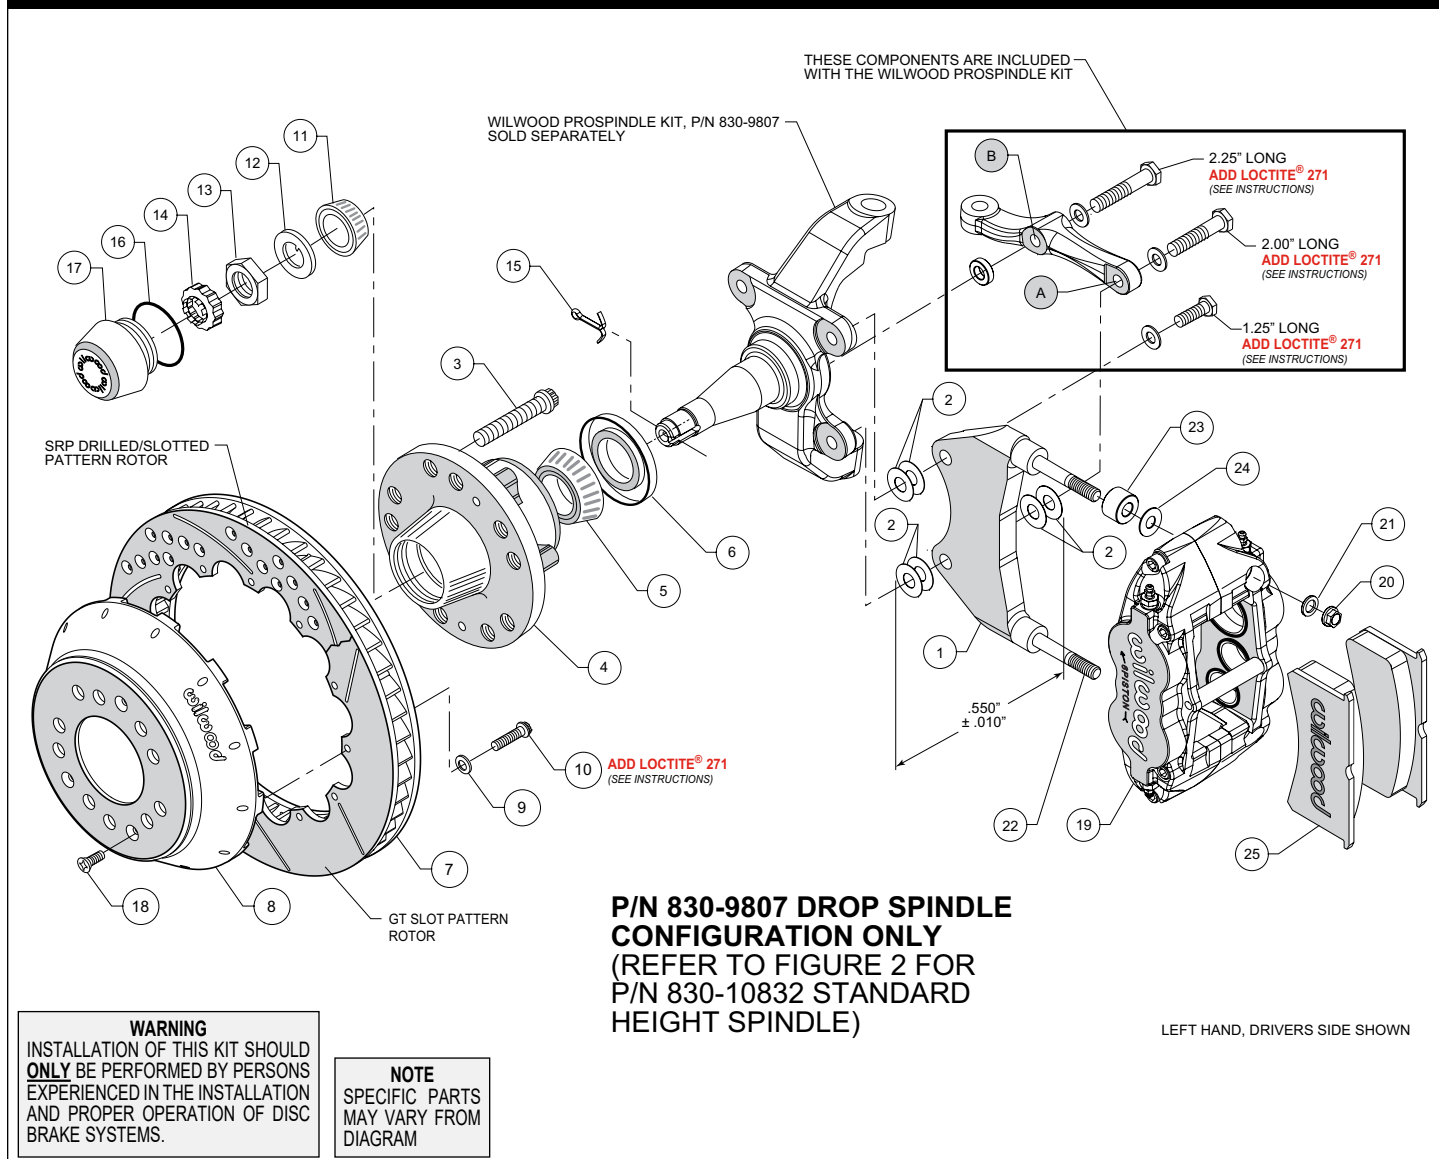
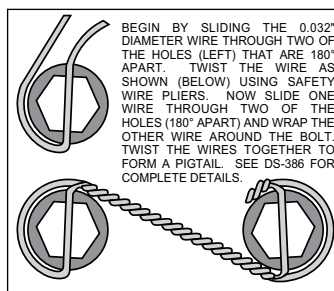

Figure 1. Installation Configuration For Drop Spindle, P/N 830-9807
Figure 4. Safety Wire Diagram
Assembly Instructions (numbers in parenthesis refer to the parts list and Figures 1 or 2 on the preceding pages):
- NOTE:** Each Wilwood ProSpindle kit includes bolts, washers, and a spacer to mount the steering arm and caliper bracket. The various bolts are identified by length in the following instructions and in Figures 1 and 2.
- Orient the bracket as shown in Figure 1 and Photo 1. Install at top spindle hole using 1.25" long bolt and .06" thick washer (from ProSpindle kit), and two .016" thick shims (2) between the bracket and spindle, Figure 1.
- Orient the steering arm, and identify the hole marked 'A', as shown in Figure 1. Install at bottom spindle hole using 2.00" long bolt and .06" thick washer (from ProSpindle kit), two .016" thick shims (2) between the bracket and steering arm, and another two .016" thick shims (2) between the bracket and spindle, Figure 1. The bracket is located between the steering arm and spindle. **NOTE:** The bracket and shim washers must add up to a total thickness of .550" $\pm$.010", Figure 1.
- Finish attaching the steering arm through the hole marked 'B', as shown in Figure 1. Install using 2.25" long bolt, .06" thick washer, and .25" thick spacer (all from ProSpindle kit), Figure 1.
- Screw dust cap (17) into hub (4). Friction created by the o-ring (16) on the dust cap keeps it from unscrewing.
- Orient the rotor (7) and the hat (8) as shown in Figures 1 or 2, and Photo 6. Attach rotor to hat using bolts (10) and washers (9). Apply red *Loctite*® 271 to the bolt threads and torque to 155 **in-lb** using a criss-cross pattern. For an added measure of security, the bolts may be safety wired using standard 0.032 inch diameter stainless steel safety wire as shown in Figure 4. Refer to Wilwood's data sheet DS-386 (available at www.wilwood.com/Pdf/DataSheets/ds386.pdf) for complete safety wire installation instructions.
- Slide the hat/rotor assembly (8 and 7) onto the hub (4) taking care to align the small countersunk holes in the hat with the small threaded holes in the hub. **NOTE:** The hat must fit flush against the hub face or excessive rotor run out may result. Install three flat head screws (18) through the small holes in the hat (8), and torque to 85 **in-lb**.
- NOTE:** This kit contains distinct right and left hand calipers that must be mounted in a specific direction, as described below. Initially place one .035" thick shim (24), and spacer (23) on each stud (22) as shown in Figure 1 or 2, and Photo 7. Mount the caliper (19) onto the bracket (1) using lock nuts (20) and washers (21), Figure 1 or 2. Ensure that the caliper is mounted so that the largest pistons are at the rotor exit end of the caliper, in relation to the direction of rotor rotation. Temporarily tighten the lock nuts and view the rotor through the top opening of the caliper. The rotor should be centered in the caliper, Photo 8. If not, proceed as follows:
- For the lower bracket mount bolt, if a shim was added between the bracket and spindle, then a shim must be removed between the steering arm and bracket, such that the total thickness of bracket and shims remain equal to $.550 \pm .010$ ", Figure 1.